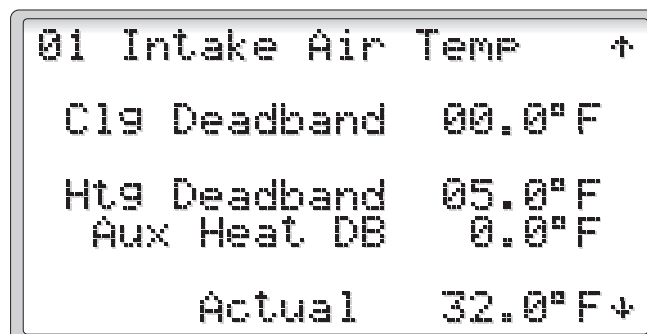

Figure 36
2.3.3.1.2 Intake Air Temperature (Figures 36 and 37)
Selecting the Intake Air Temperature will display the screens shown in Figure 36 and 37. The temperature dead bands are set here as well as switching differential. These settings may depend on other dehumidifiers conditioning the zone. Check the settings of the other dehumidifiers before altering these settings.